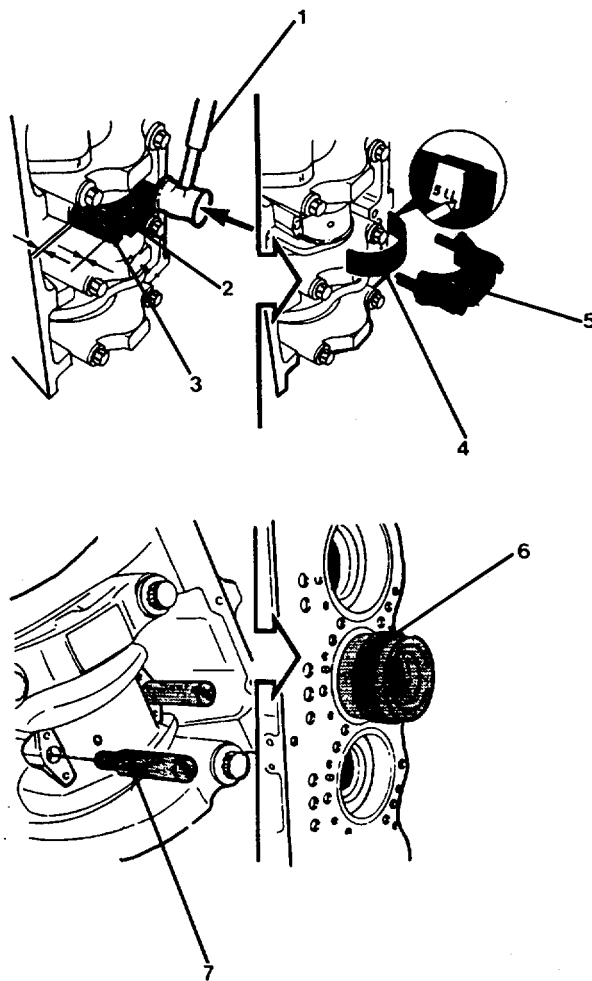
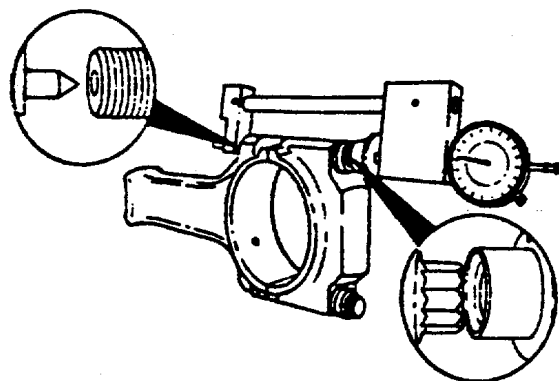

FIGURE 3-22. Connecting Rod and Piston Assembly Removal.
FIGURE 3-27. Rod Bolt Checking Fixture.
The connecting rod journals in FIG. 3-22 are shown positioned at BDC. If the connecting rod is adjacent to a crankshaft counterweight, the rod journal must be at TDC to remove the rod.
- (2) Loosen machine bolts (3, FIG. 3-22) until there is 1/4 inch (6 mm) clearance between the connecting rod (2) and the bolt heads.
- (4) Install bearing (4, FIG. 3-22) in connecting rod cap (5). Align bearing oil hole with cap oil hole. Lubricate bearing with clean engine lube oil.
- (5) Lubricate the connecting rod machine bolt threads and beneath the bolt head with clean engine lube oil.
- (6) Lubricate the entire cylinder liner with clean engine lube oil.
- (7) Immerse the piston in lube oil until the rings are covered. Allow excess oil to drip from pistons.
- (11) Install connecting rod cap (5, FIG. 3-22) and machine bolts (3). Tighten the machine bolts (3) alternately and evenly to pull the cap over the pin dowels.
- (1) Tighten connecting rod bolts (3, FIG. 3-22) using the procedure in Table 3-5. Apply torque to both bolts.
- (2) Loosen both bolts (3).
- (3) Position rod bolt checking fixture on rod bolt (FIG. 3-27). Ensure the fixture anvil is centered in hole of the rod bolt and the figure contacts the head of the bolt as shown in FIG. 3-27.
- (4) Adjust the fixture indicator to the 0.050 inch mark. Ensure that there is a minimum of 0.030 travel remaining.
- (5) Tighten indicator lock to maintain reading. Record reading as "First Bolt Zero."